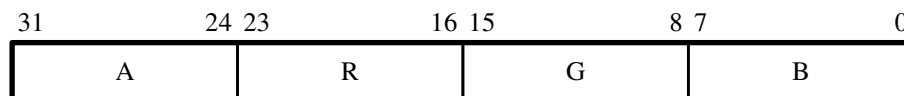

Figure 14. 32-bit RGBA Color Space.
- 32-bit RGBA — This format contains alpha values as well as RGB and uses 8 bits of each color as shown in Figure 14. This mode is defined as 8 bits per color and four color planes.